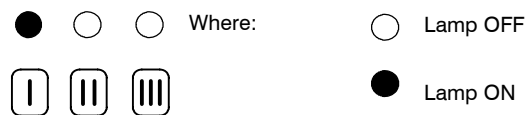

Fig. 37
- 6 The lamps E should give the indication as in Fig. 37. If not, press the reset button repeatedly to obtain it.